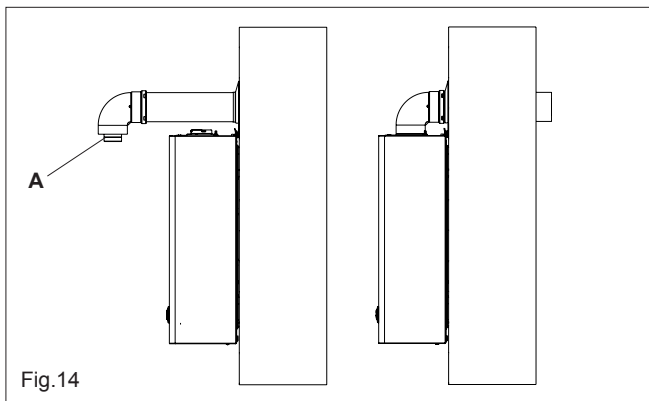

Fig. 14
**NOTE:** Ensure that the outlet of the flue terminal is correctly orientated as shown in fig. 14.